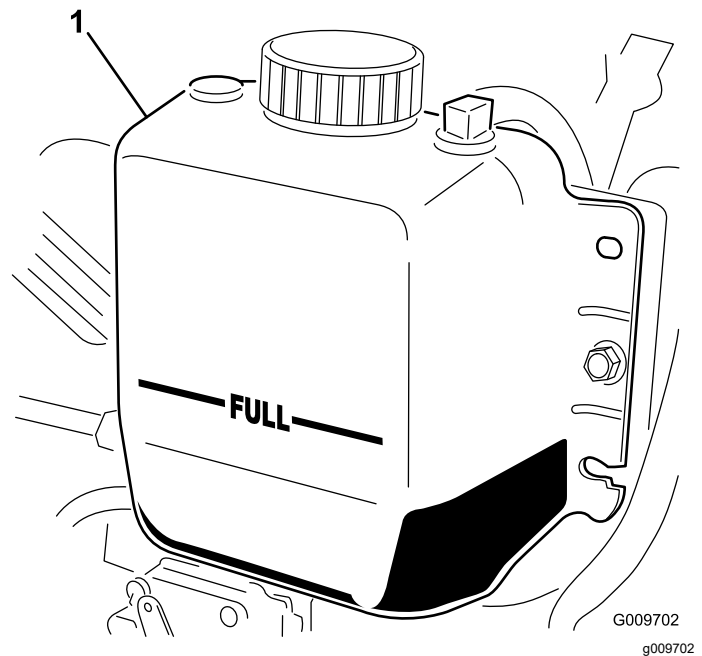

Figure 78
3. Check the coolant level in the radiator. The radiator should be filled to the top of the filler neck and the expansion tank filled to the FULL mark (Figure 78).